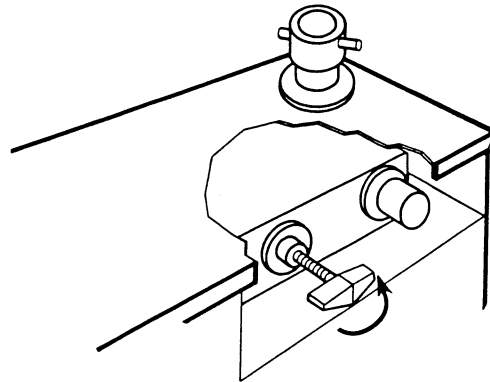

Fig. 4-10. Closing Service Valve (CCW Rotation)
2. Turn service valve counterclockwise (Fig. 4-10) until it stops in fully out position.